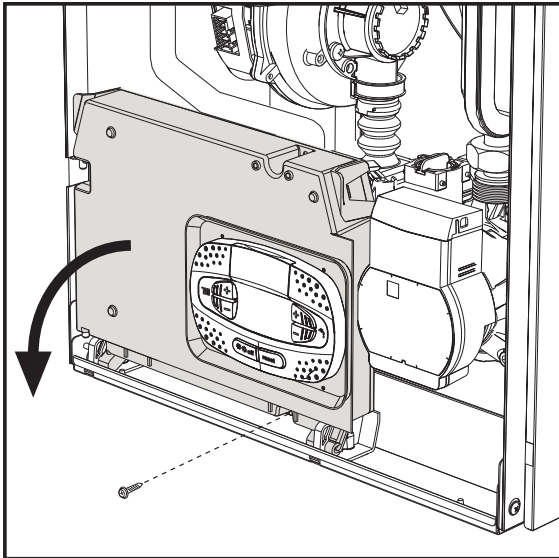
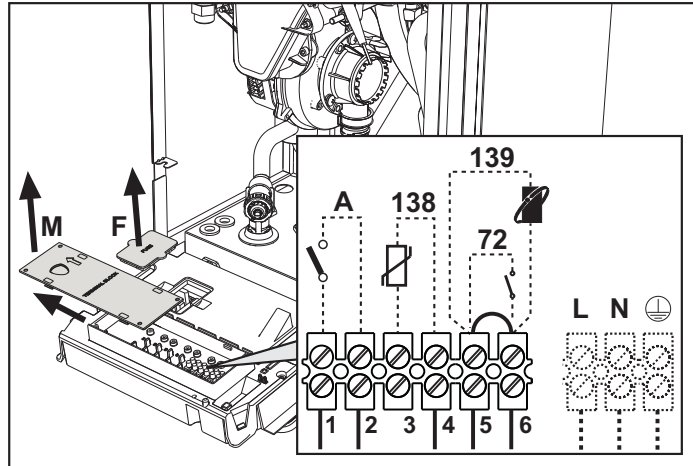

fig. 19
fig. 20
Remove the front panel ( \*\*\* 'Opening the front panel' on page 185 \*\*\* ) to access the terminal block (M) and fuse (F) by proceeding as follows (fig. 19 and fig. 20). **The terminals indicated in fig. 20 must be with voltage-free contacts (not 230V).** The arrangement of the terminals for the various connections is also given in the wiring diagram in fig. 61.
## ON/OFF (A fig. 20) configuration